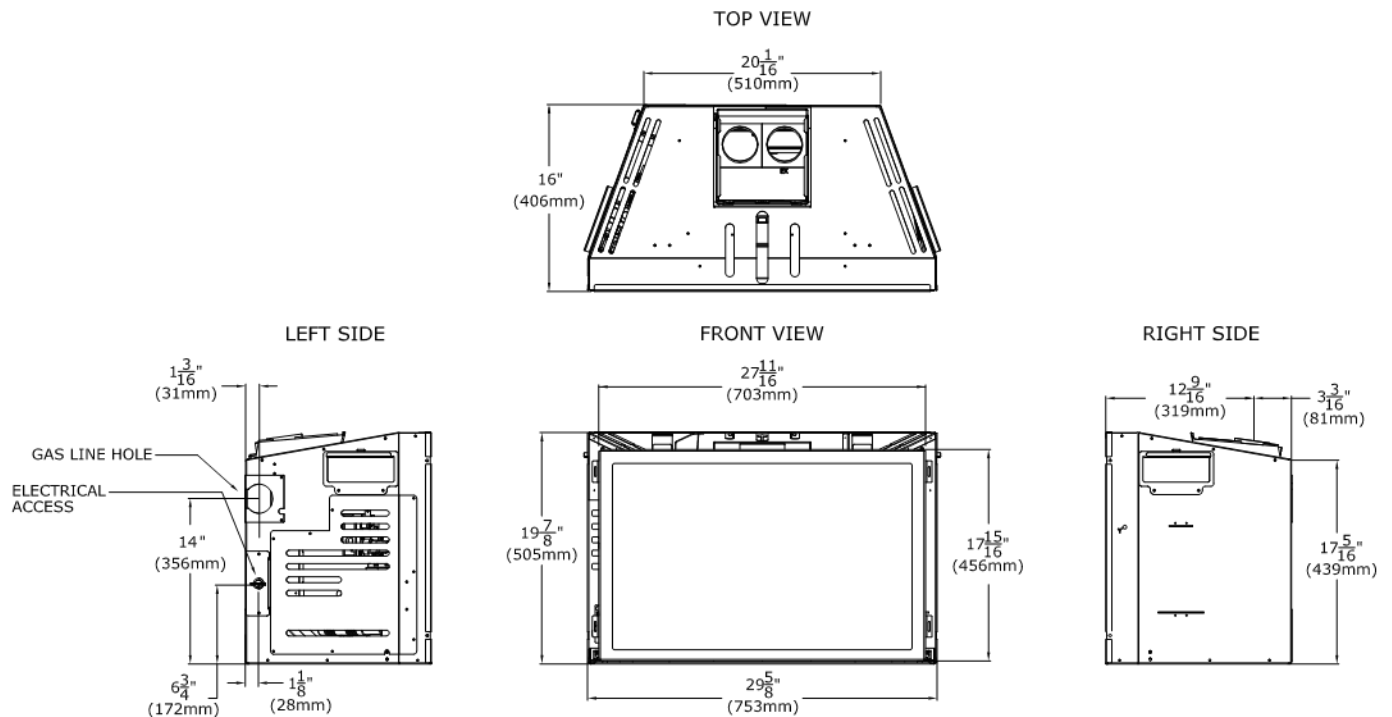

Figure 2.1 - Appliance dimensions
- A gas line must be able to be installed to the fireplace insert. Please refer to Figure 2.1. The gas line access hole is located on the left side of the insert.